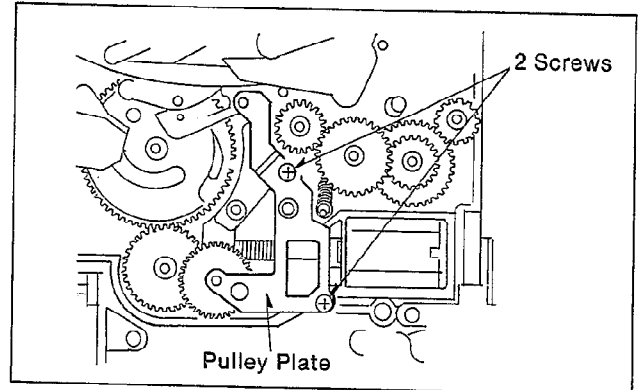

Fig. M28
- (1). Install the Pulley Plate and then tighten the 2 Screws as shown in Fig.M28.